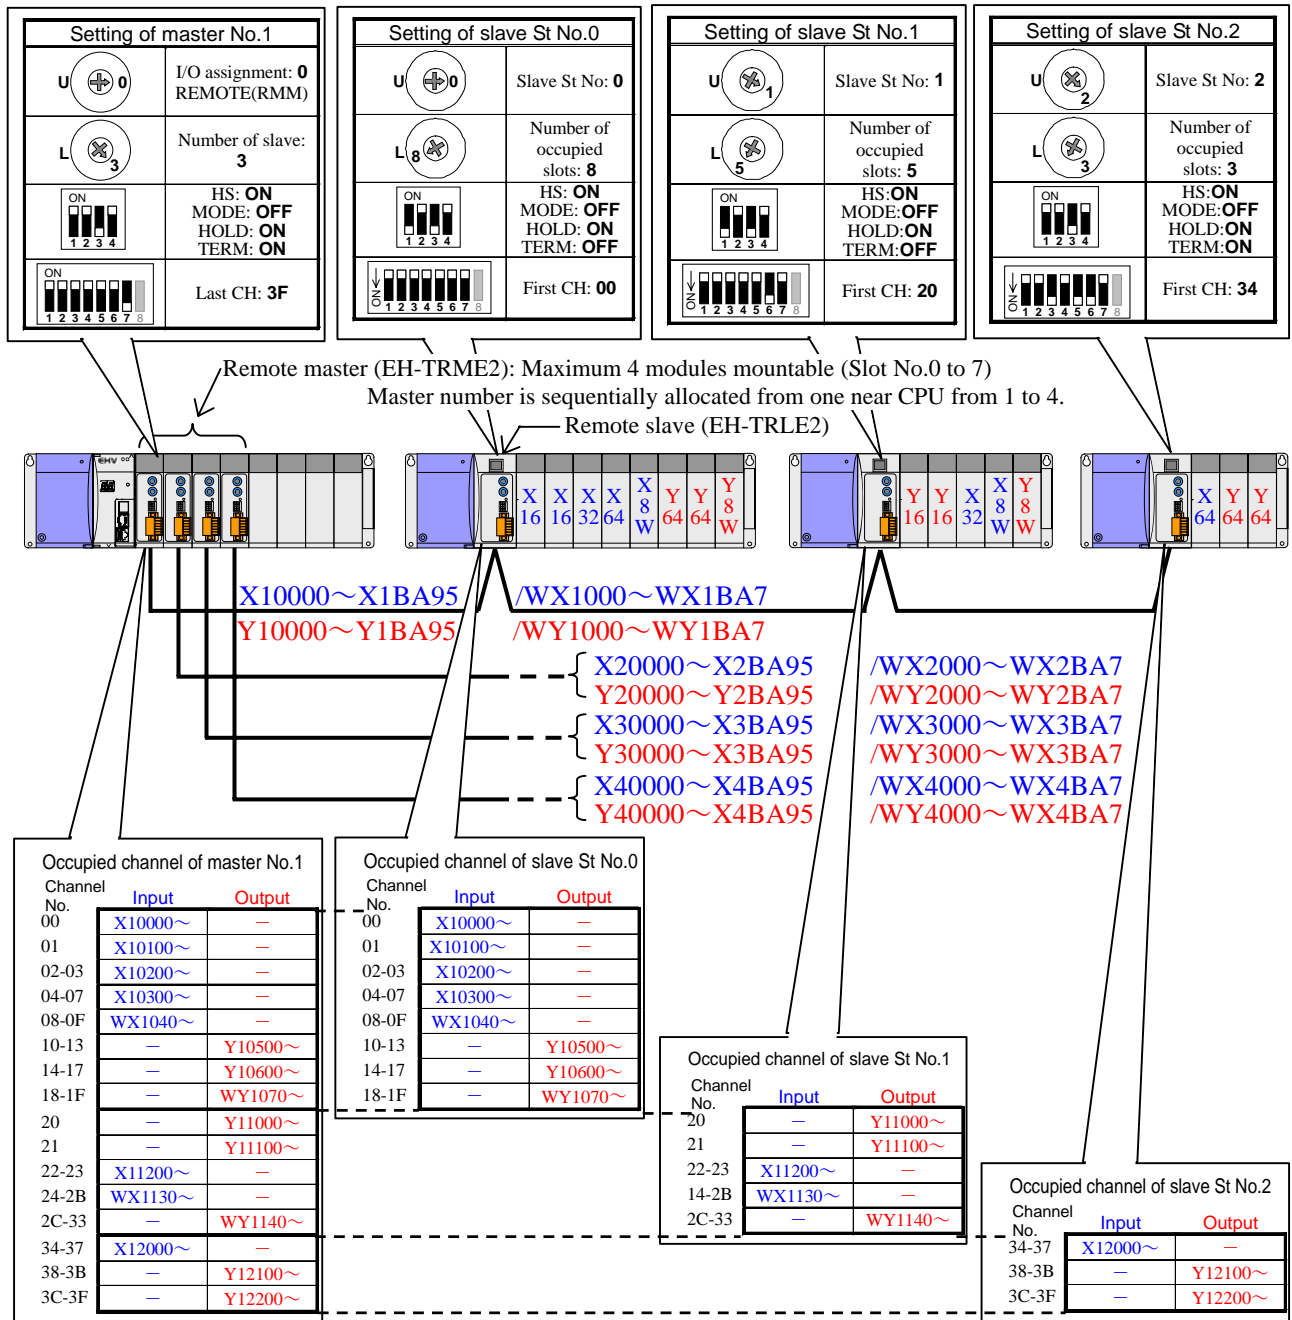

Figure 4.3.1 System configuration example (I/O assignment of master: “REMOTE (RMM)”)
Basic system configuration example that I/O assignment of master module (EH-TRME2) is “REMOTE (RMM)” is shown in Figure 4.3.1. The last channel number is abbreviated to “Last CH.,” and the first channel number is abbreviated to “First CH.” in the following figures of setting for DIP switch.
- 4) Maximum 12 slave modules can be connected to one master module. (Example of Figure 4.3.1 is 3 slaves.)
(Assignment of Figure 4.3.1 configuration example by Control editor)